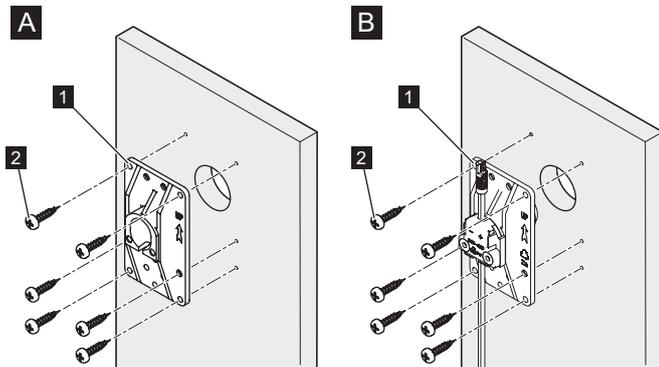

Fig. 10: Mounting on wooden panel
Mounting for the non-electrified holder sets (Fig. 10/A) is identical to mounting for the electrified holder sets (Fig. 10/B).
2. Apply holder set (Fig. 10/1).
3. Screw the wood screws (Fig. 10/2), through the holes provided in the holder set, into the panel and tighten to 3 Nm.